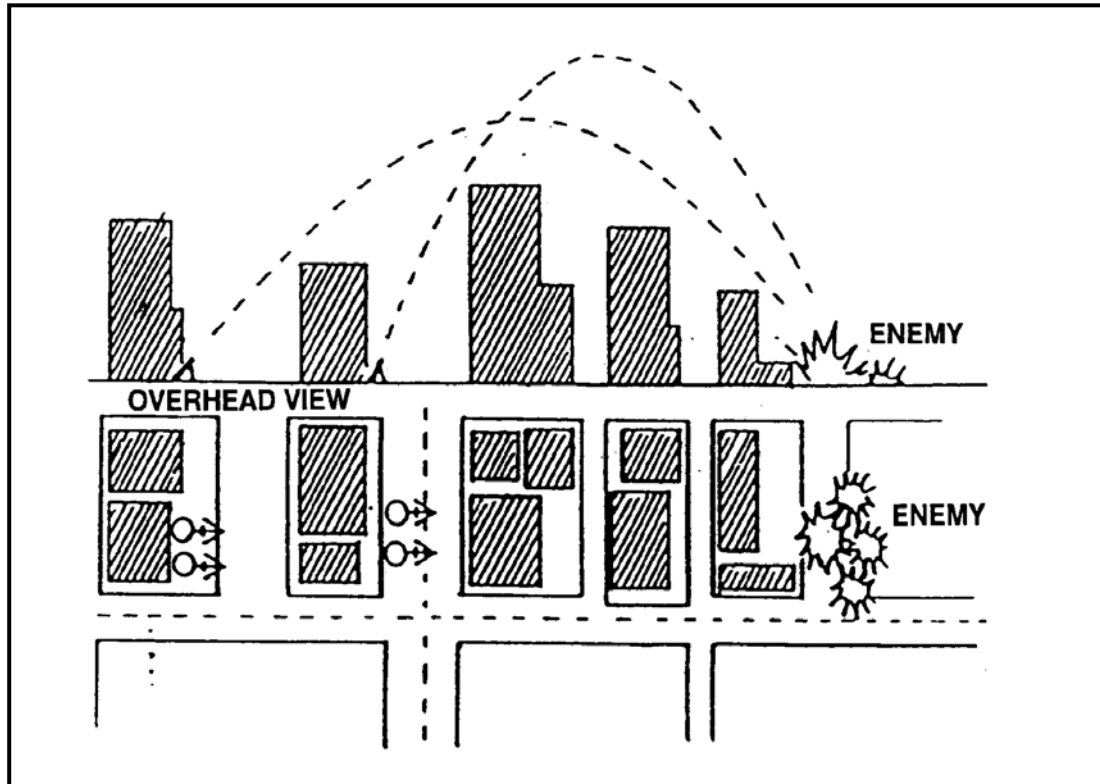

Figure 7-13. Split-section mortar operations on adjacent streets.
(1) Mortars can be fired through the roof of a ruined building if the ground-level flooring is solid enough to withstand the recoil. If there is only concrete in the mortar platoon's area, mortars can be fired using sandbags as a buffer under the baseplate and curbs as anchors and braces. (This is recommended only when time is not available to prepare better firing area.) Aiming posts can be placed in dirt-filled cans.
(2) The 60-mm and 81-mm mortars of the US Army have limited effect on structural targets. Even with delay fuzes they seldom penetrate more than the upper stories of light buildings. However, their wide area coverage and multioption fuzes make them useful against an enemy force advancing through streets, through other open areas, or over rubble. The 120-mm mortar is moderately effective against structural targets. With a delay fuze setting, it can penetrate deep into a building and create great destruction.
(3) Mortar platoons often operate as separate firing sections during urban combat. The lack of large open areas can preclude establishing a platoon firing position. Figure 7-13 shows how two mortar sections, which are separated by only one street, can be effective in massing fires and be protected from countermortar fire by employing defilade and dispersion.